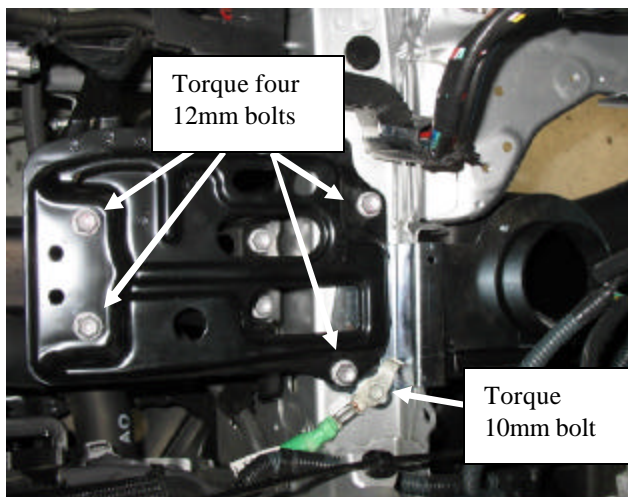

Fig. 4-5
- (f) Replace battery carrier using the four 12mm factory bolts. (Fig 4-5)